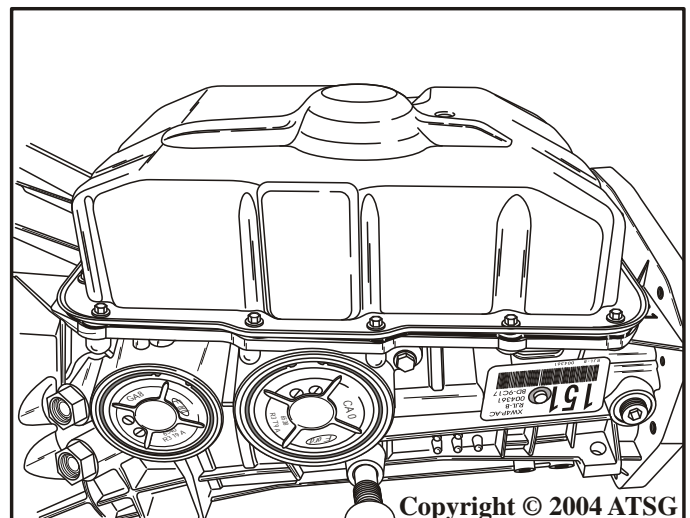

Figure 27
8. Install the transmission into the bench fixture and rotate, so that the bottom pan is facing up, as shown in Figure 27.
9. Rotate the transmission so that the bottom pan is facing up, as shown in Figure 27.